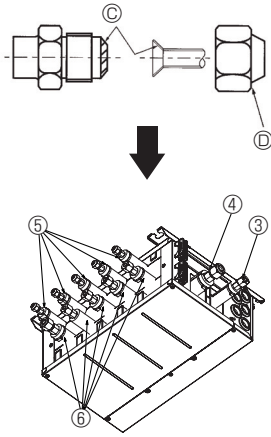

Fig. 7-2
- Ⓢ Apply refrigeration oil to the entire (Fig. 7-2) surface of the flared seat.